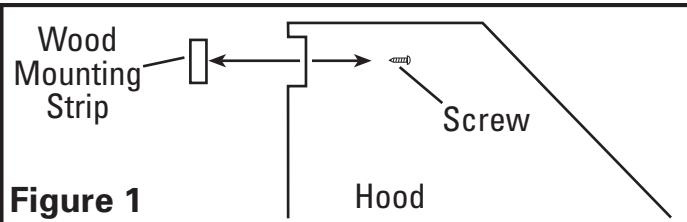

Figure 1
2. Remove the wood mounting strip attached to the back of the hood and place in a secure place. You will need this strip later (**Figure 1**).